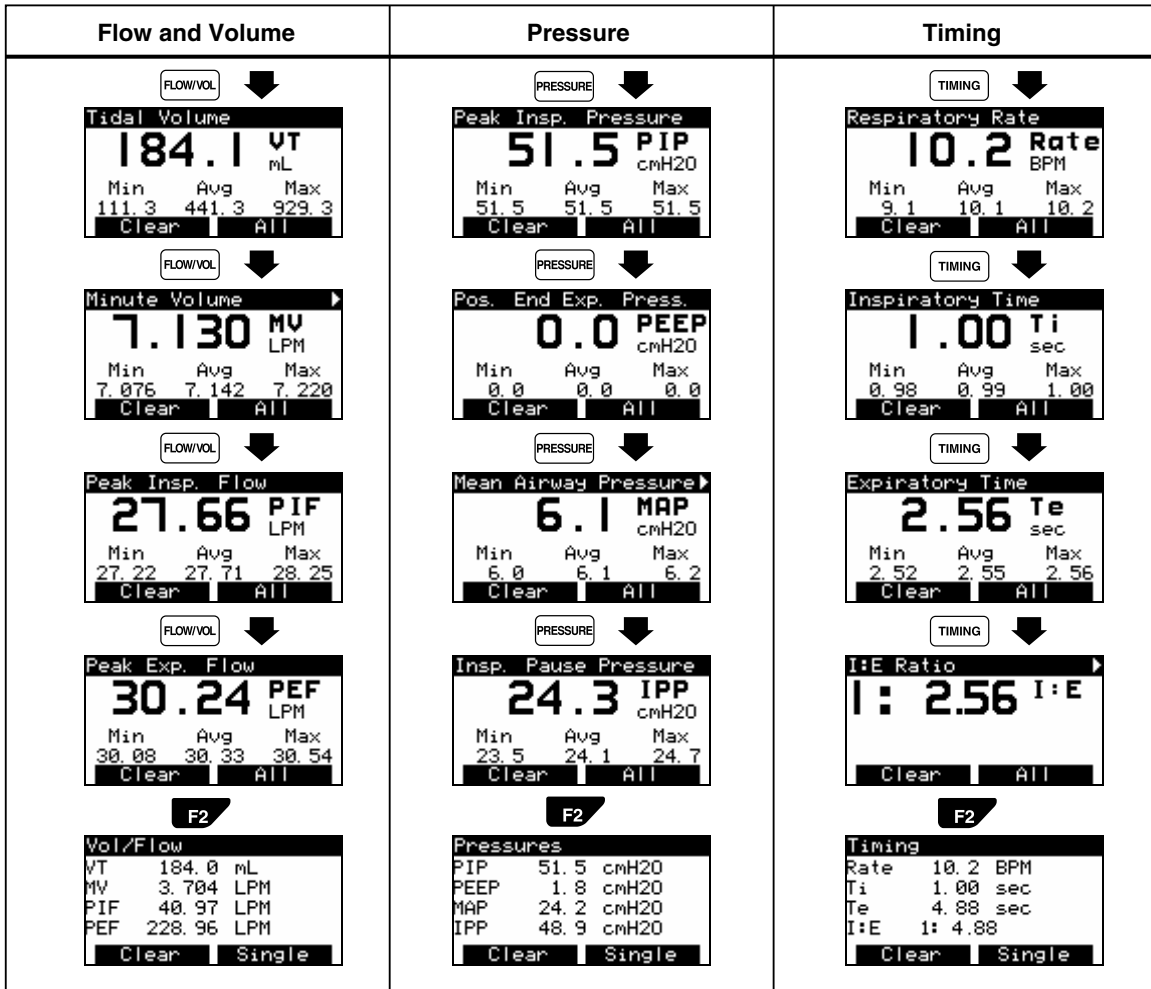
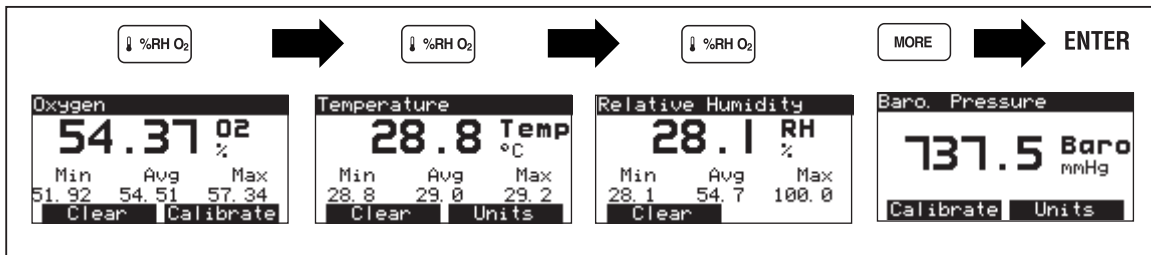

Figure 4-2. Accessing Calculated Parameters
Figure 4-3. Accessing Other Parameters
- Figure 4-2 shows the ventilator parameter screens.
- Figure 4-3 shows additional oxygen, temperature, relative humidity, and barometric pressure parameter screens.
Figure 4-2 shows how to access the 12 calculated parameters, and Figure 4-3 shows how to access the four direct measurement parameters.